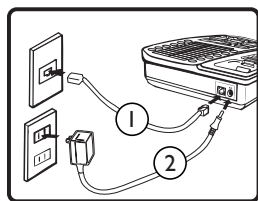

Figure 8
7. Insert the plug of the AC adapter into the jack marked **DC 9V** located on the back of the base unit. Then plug the AC adapter into a wall outlet. See Figure 8.